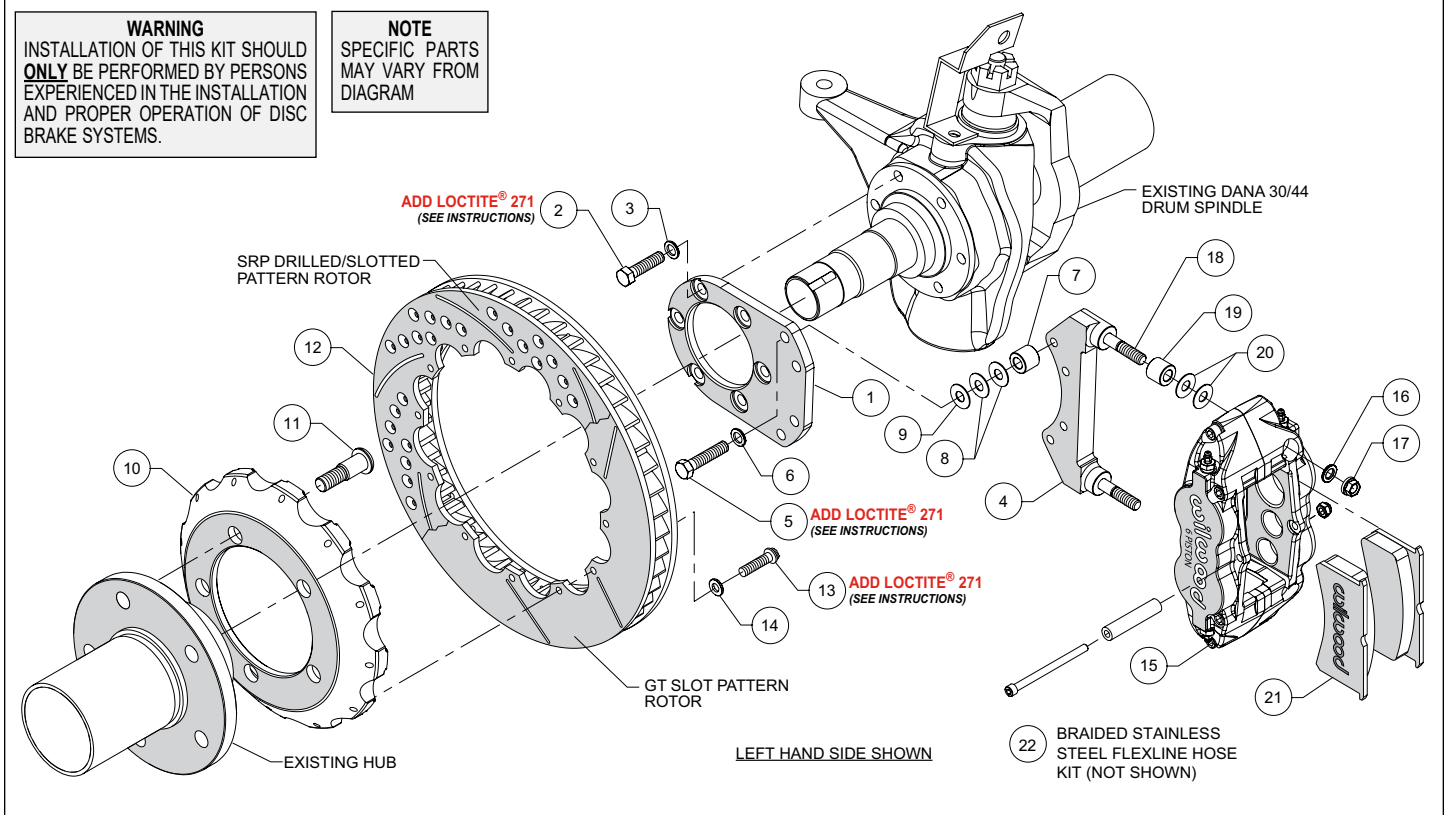

Figure 1. Typical Installation Configuration
**NOTE:** *Numbers in parenthesis refer to the parts list and Figure 1 on the preceding pages.*
- Orient the flat mount bracket (1) as shown in Figure 1 and Photo 1, and install using bolts (2), and washers (3). Ensure that the counterbored holes in the bracket are facing outboard, Figure 1. Temporarily tighten the mounting bolts. **NOTE:** *The bracket must fit squarely against the mount bosses on the upright.* Inspect for interference from casting irregularities, machining ridges, burrs, etc. Remove bolts one at a time, apply red *Loctite*® 271 to the threads and torque to 40 ft-lb.
- The caliper mount bracket (4) should initially be installed with clean, dry threads on the mounting bolts. Orient the bracket as shown in Figure 1 and Photo 2, and install using mount bolts (5) and washers (6). Initially place two .035" thick shims (8) and spacer (7) on each bolt between the flat and caliper brackets, Figure 1. Temporarily tighten the mounting bolts. Later, after the caliper alignment has been checked, the mount bolts will be secured using red *Loctite*® 271.
- Orient the hat (10) and the OEM hub as shown in Figure 1 and Photo 3. **NOTE:** *The hat must fit flush against the axle hub or excessive rotor run out may result.* Install the wheel studs (11) thru the holes in the hat and press into the existing hub. **NOTE:** *We recommend this procedure be performed by a qualified machinist.*
- Orient the rotor (12) and the hat/hub assembly as shown in Figure 1 and Photo 4. Attach rotor to hat using bolts (13) and washers (14). Apply red *Loctite*® 271 to the bolt threads and torque
•**NOTE:** This kit contains distinct right and left hand calipers that must be mounted in a specific direction, as described below. Place spacer (19) and initially two .035" thick shims (20) on each stud (18) as shown in Figure 1 and Photo 5. Mount the caliper (15) onto the bracket (4) using lock nuts (17) and washers (16), Figure 1. Temporarily tighten the lock nuts. Ensure that the caliper is mounted so the largest pistons are at the rotor exit end of the caliper, in relation to the direction of the rotor. View the rotor through the top opening of the caliper. The rotor should be centered in the caliper, Photo 6. If not, adjust by adding or subtracting shims (8 and/or 9) between the spindle bracket and caliper bracket. Always use the same amount of shims on each of the four mounting bolts. Once the caliper alignment is correct, remove the bracket to bracket mounting bolts (5) one at a time, apply red *Loctite*® 271 to the threads, and torque to 35 ft-lb.